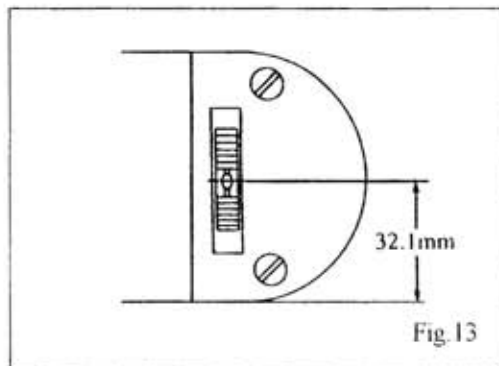

Fig.13
(Fig.13)
- 4) Adjust to be 32.1 mm from the edge of the needle plate to the center of the needle hole on the feed dog. (Fig.13)